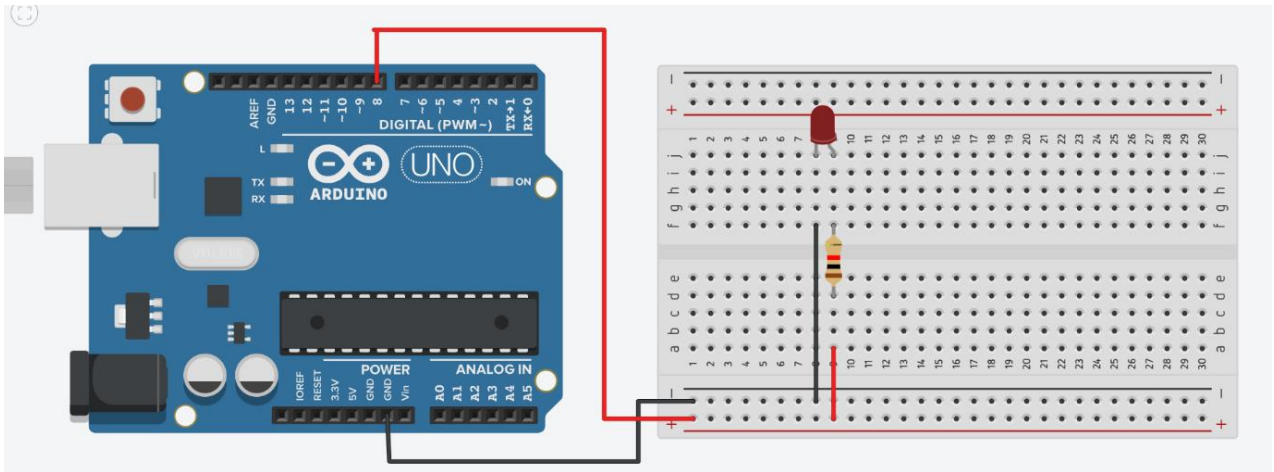

Fig.1: Circuit Connection Diagram
- Connect the GND rail to the GND pin of Arduino Uno (Fig.1).